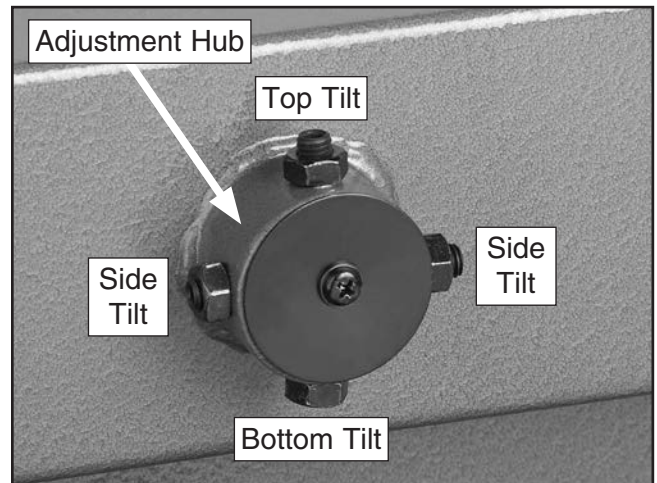

Figure 61. Lower wheel adjustment control.
6. Adjust the tracking knob to get both wheels parallel. If the wheels won't go parallel to each other, then move the lower wheel at the adjustment hub (see **Figure 61**) so they line up.